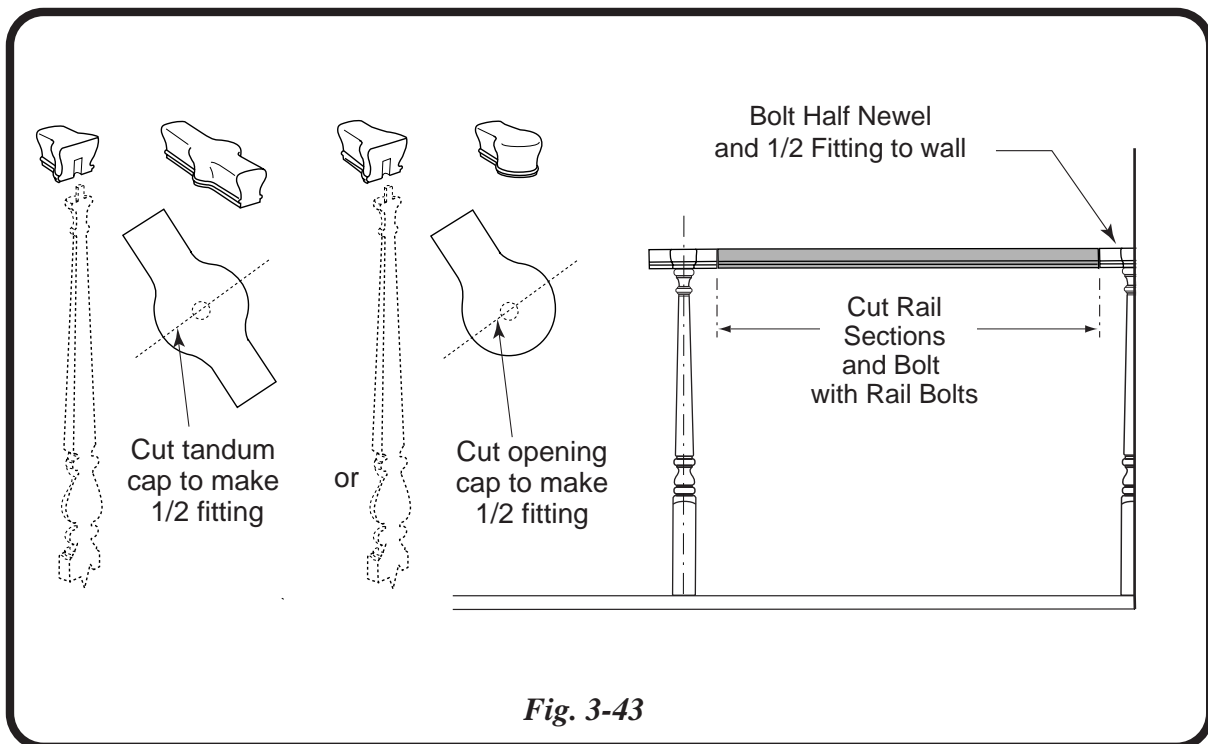

Fig. 3-43
10. Cut rail to length and rail bolt into place. Please note Fig. 3-43 here.
2. Attach the half newel to the wall in the desired location. Please note Fig. 3-43 here.
3. Cut either a tandem or opening cap in half. Please note Fig. 3-43 here